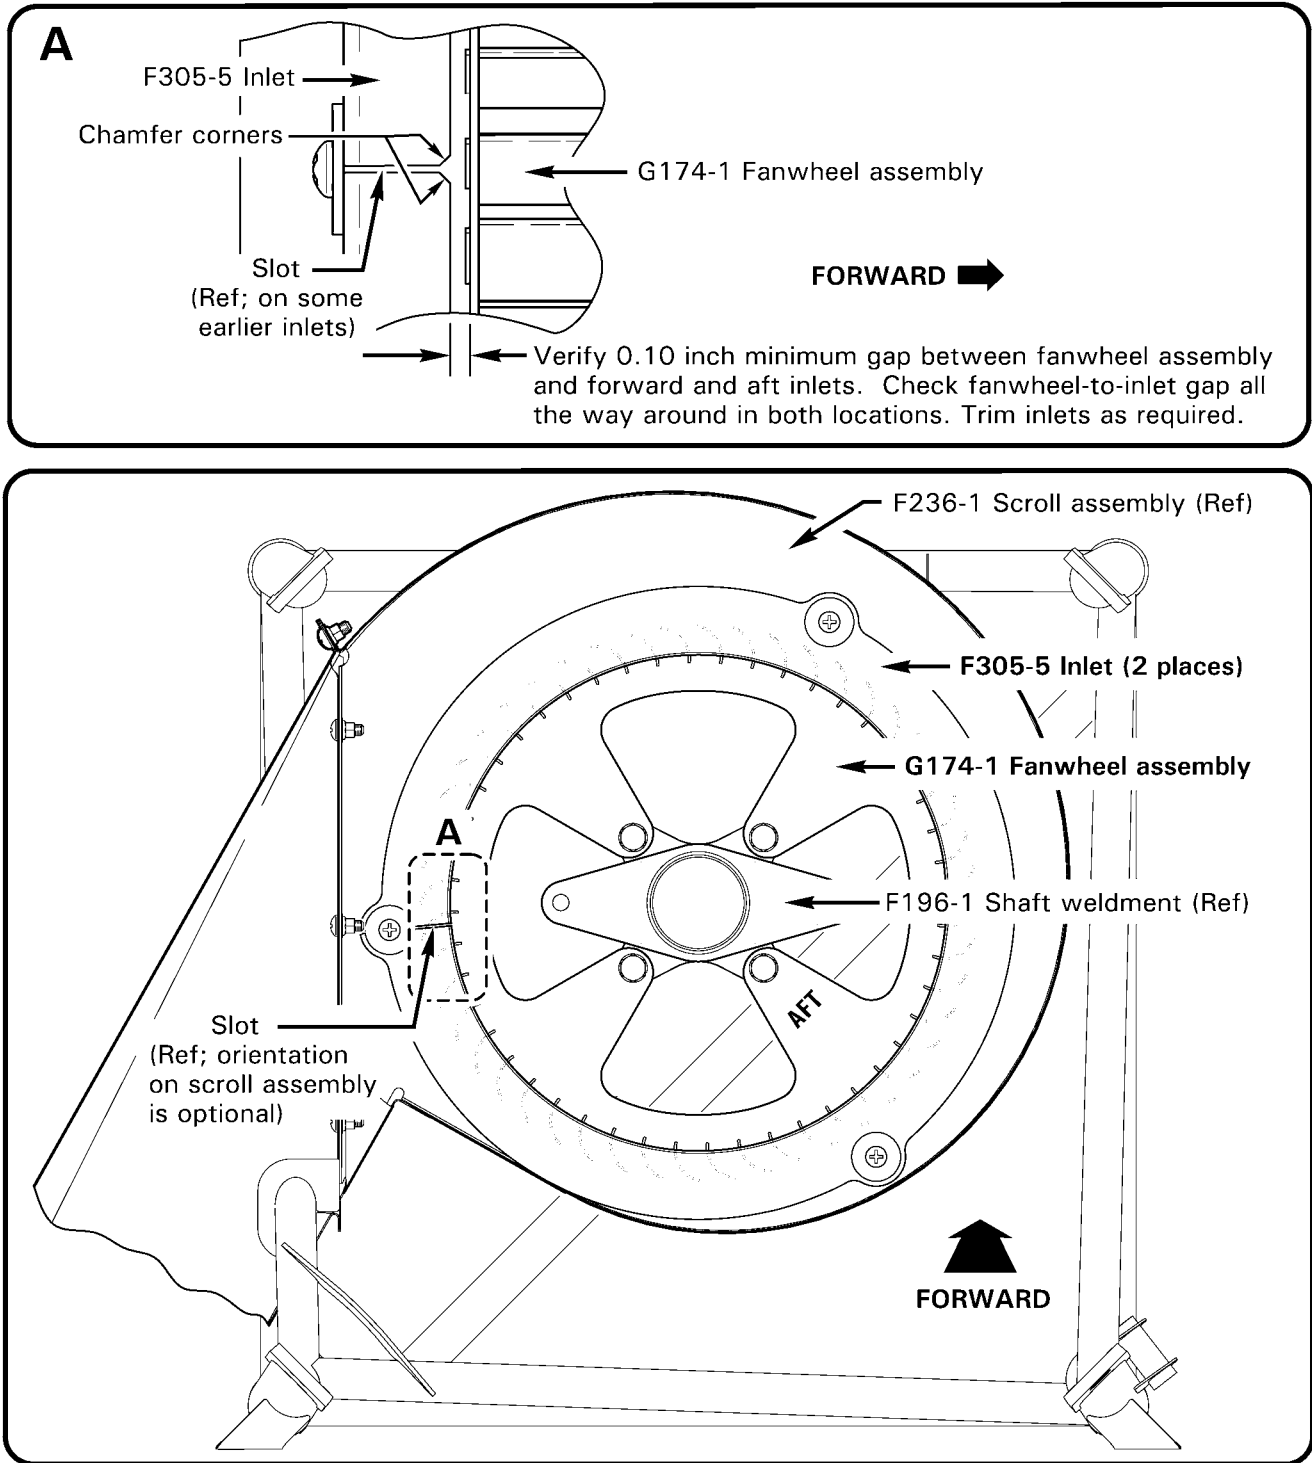

FIGURE 1
1. Remove tailcone cowling per R66 Maintenance Manual (MM) § 53-23.
2. Refer to Figure 1. Verify 0.10 inch minimum gap between G174-1 fanwheel assembly and forward and aft F305-5 inlets. Check gap all the way around; rotate fanwheel and check gap again (several positions). If gap is within limits at forward and aft inlets, proceed to step 7.
3. Remove hardware securing inlet(s) to F236-1 scroll assembly. If inlets are slotted, carefully twist inlets over F196-1 fan shaft to remove them. If inlets are not slotted, cut slot in inlets using tin snips per Figure 1 (it is not necessary to disconnect drive train). Straighten part as required. Chamfer slot corners near radius as shown.